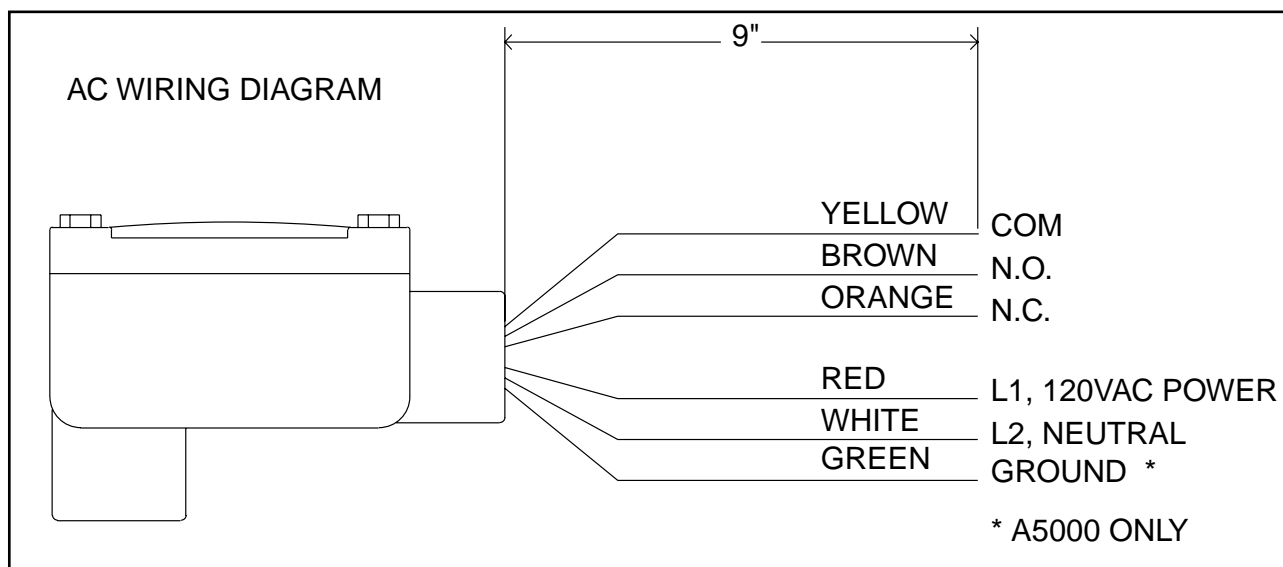
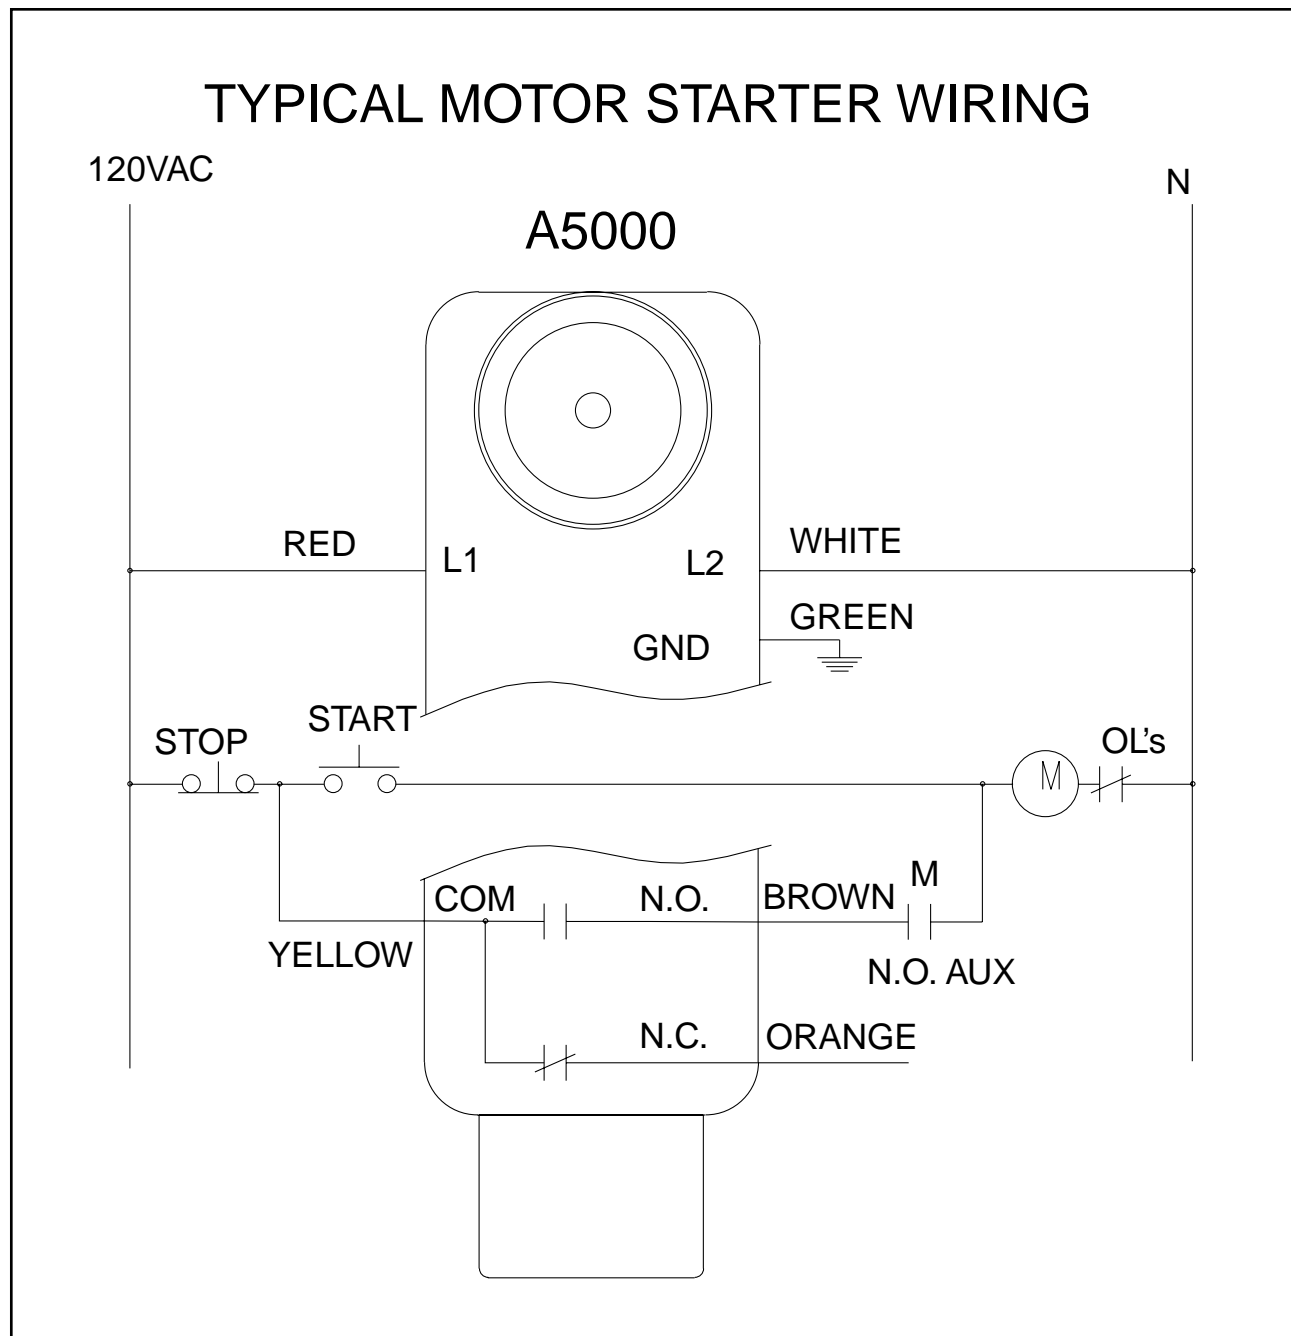

Figure 3
Figure 4
5.1 Power connections and relay connections to the A5000 Zero Speed Switch are shown on figure 3, page 4. Also, figure 4 & 5, page 5 & 6 show typical wiring diagrams.
(see figure 3, page 4).